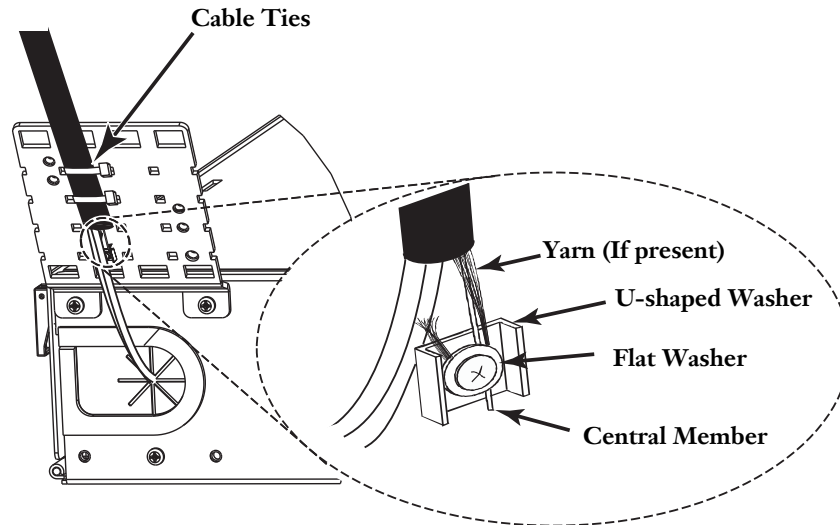

Figure 8 — Strain-relieve Central Member
Step 1: Attach the cable tie to the strain-relief bracket in two places as shown in Figure 8.
- Step 3:** Secure cable to cable entry plate using a loose cable tie (Figure 8). Do not overtighten cable tie.